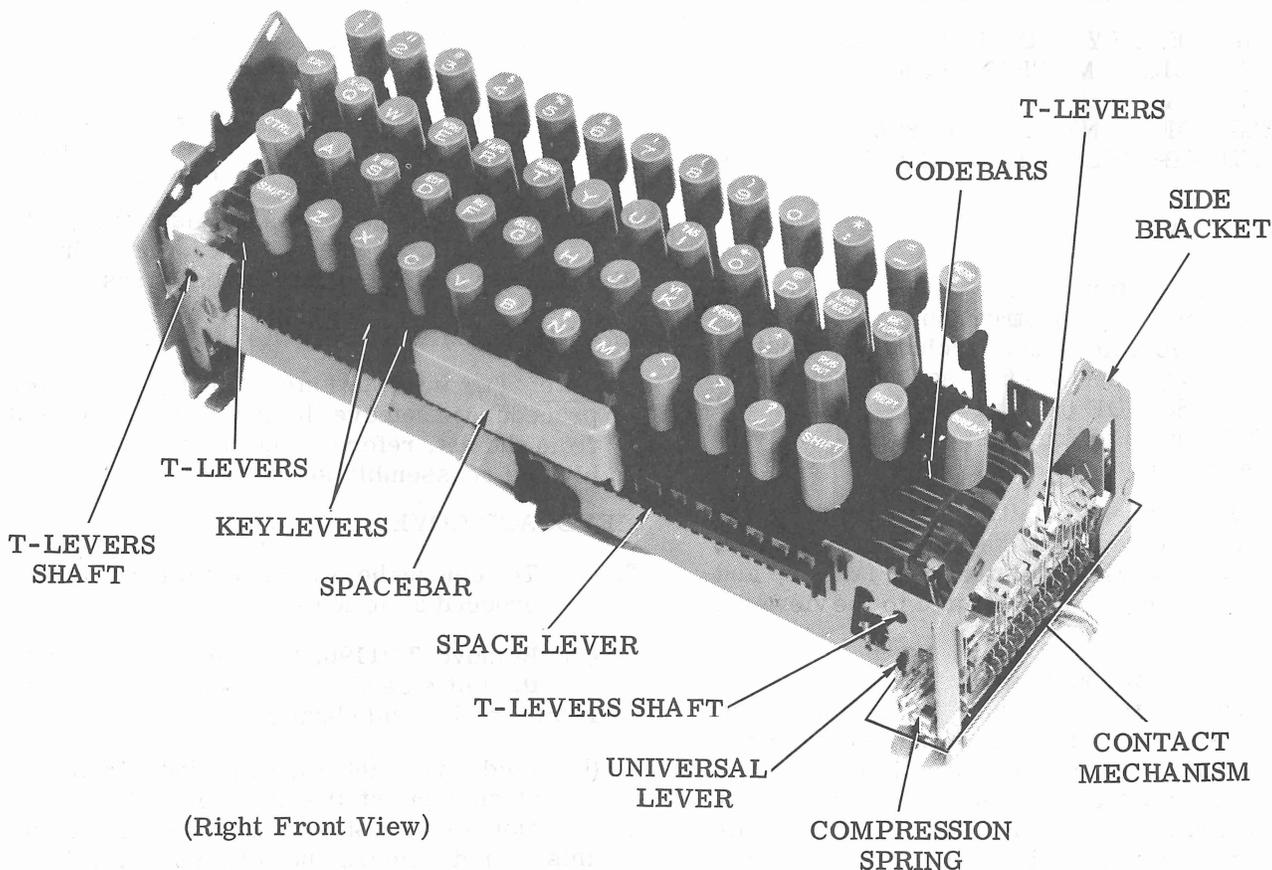

Figure 1 - Keyboard (Cover Removed)
- 2.02 To remove any keylever (Figure 1), proceed as follows.
2.03 To remove spacebar mechanism (Figure 1), proceed as follows.
- 2.04 To remove any codebar (Figure 1), proceed as follows.
- 2.05 To remove keyboard contact mechanism (Figure 1), proceed as follows.
- 2.07 To remove the T-lever shafts (Figure 1), proceed as follows.